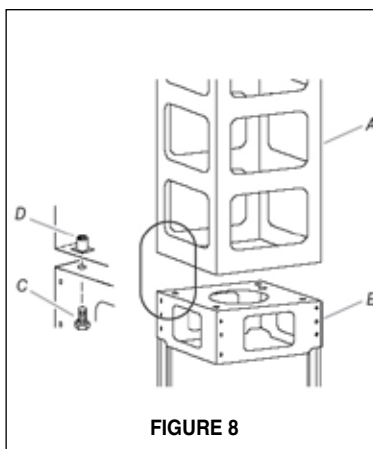

FIGURE 8
5. If using the High Ceiling Chimney Kit, remove the CHIMNEY COVER from the CHIMNEY EXTENSION (A in FIGURE 8). Position the CHIMNEY EXTENSION over the CHIMNEY SUPPORT (B in FIGURE 8) so that the outside edges and the electrical holes line up. Attach the CHIMNEY EXTENSION to the CHIMNEY SUPPORT using the 4 bolts (C in FIGURE 8). Tighten bolts securely.